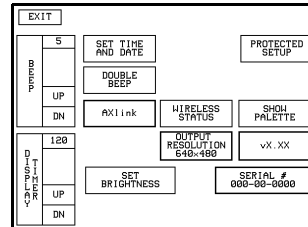

FIG. 3 Setup page
1. Press **SETUP** in the Main page to open the Setup page (FIG. 3).